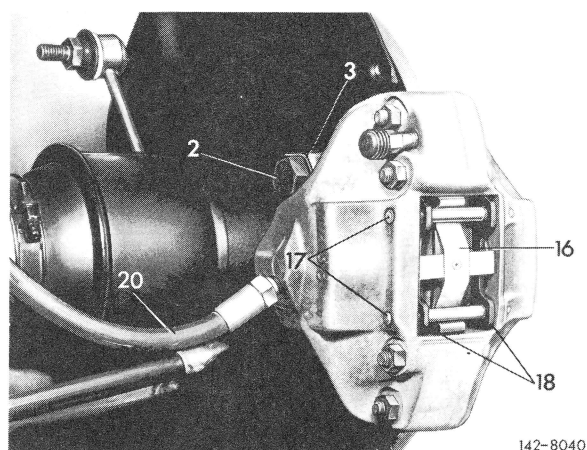

Fig. 4
**3** On version 2, loosen brake hose (20) on holder of underbody from brake line and screw out of caliper. Close all connections immediately with rubber plugs (Fig. 4).
**7** On vehicles with version 2 of brake line layout (Fig. 4), connect brake hose on brake line to holder of underbody.